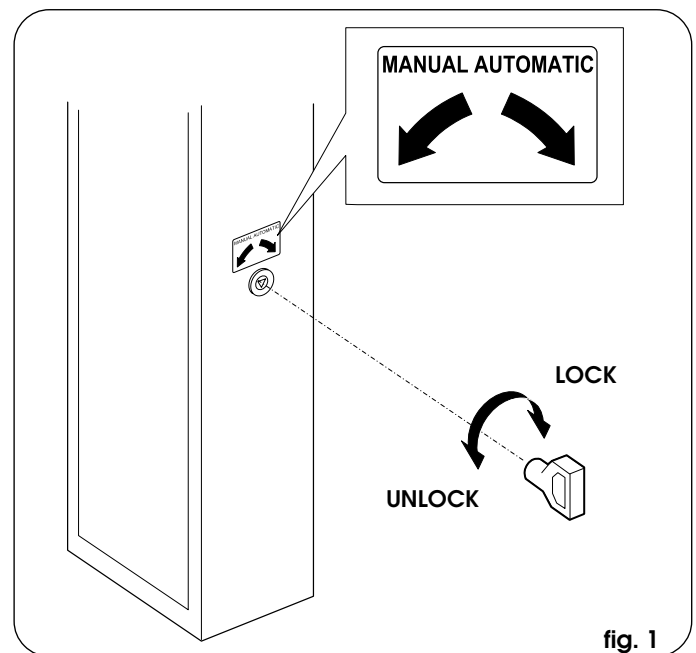

fig. 1
- Fit the triangular key (Fig.1) in the lock and turn it **anti-clockwise** through 1 turn.